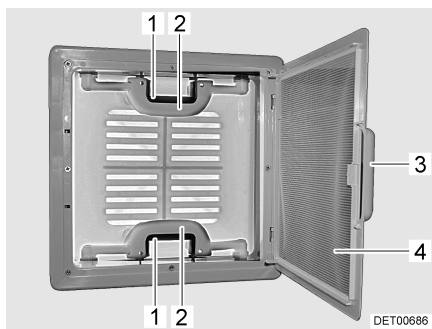

Fig. 24 Skylight with snap latch
- Pull on the handle (Fig. 24,3).
- Fold insect screen (Fig. 24,4) downward.
- Push the snap latch (Fig. 24,1) towards the inside of the skylight. At the same time use the handle (Fig. 24,2) to press the skylight upwards.
- Swing insect screen (Fig. 24,4) upwards until it latches in place.
- Using both handles (Fig. 24,2), pull down the skylight with force until the two snap latches (Fig. 24,1) lock into place.